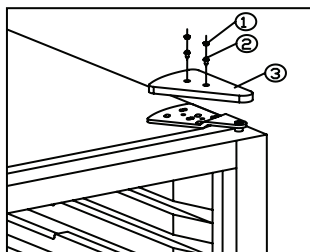
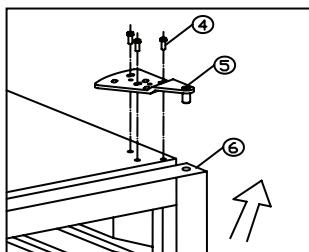
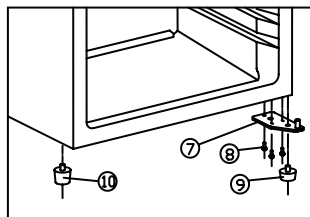
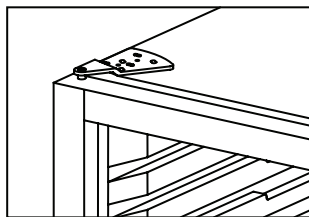

Abb. 5.1
Abb. 5.2
Abb. 5.3
Abb. 5.4
- Remove the rubber plugs (1). See fig. 5.1
- Remove the screws (2) and take off the hinge cover (3)
- Remove the 3 screws (4) which hold the top hinge and lift off the top hinge (5) **SUPPORT THE DOOR!** See fig. 5.2
- Lift off the door (6) and place the cabinet on the back
- Remove the 3 screws (8) which hold the bottom hinge (7) and dismount the low cabinet foot (9) from the hinge. See fig. 5.3
- Dismount the high cabinet foot (10) from the cabinet and remount it on the opposite side
- Mount the bottom hinge in the left side using the 3 screws (8)
- Mount the top hinge, hinge cover, and rubber plugs. See fig. 5.4.